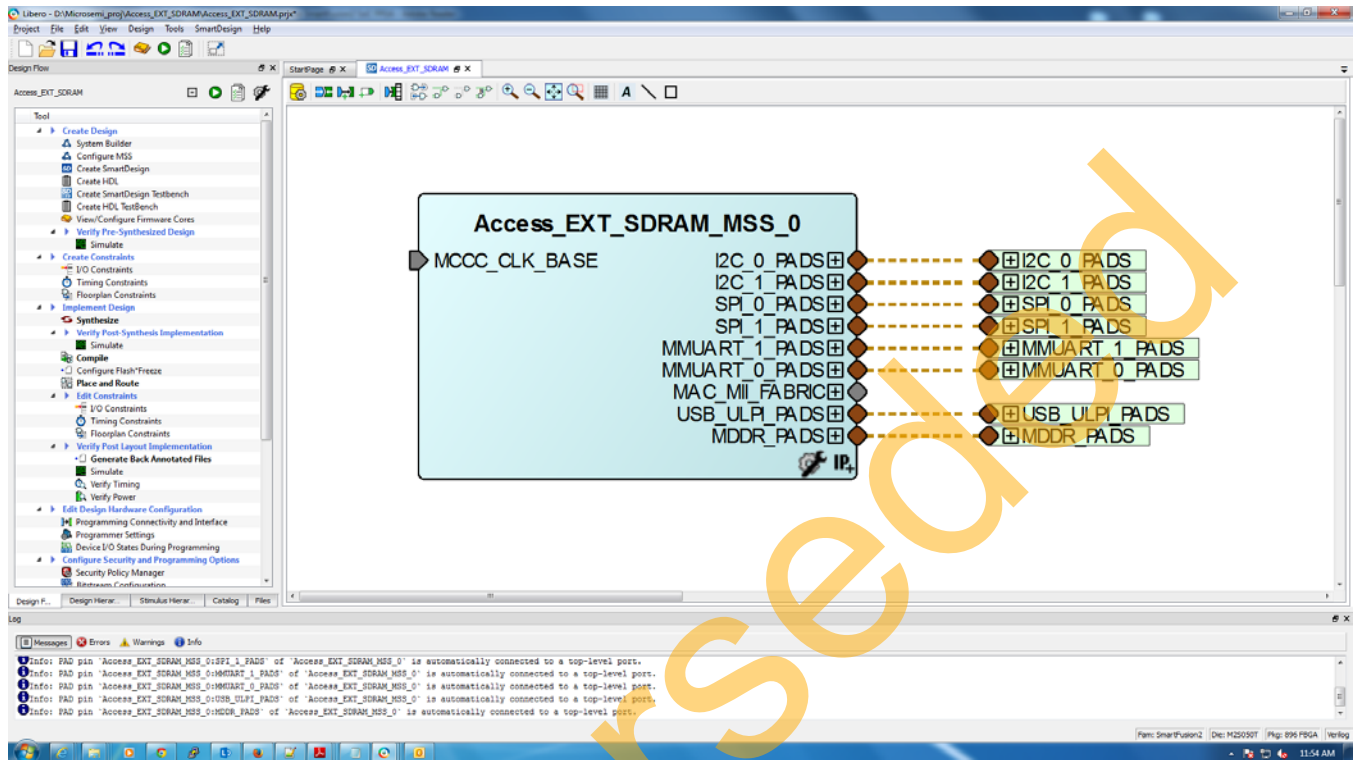

Figure 4. The Libero Window on Completion of New Project Creation Wizard
1. The project is created and the Libero SoC window is displayed, as shown in Figure 4. The **SmartDesign** window opens up and a project named Access_EXR_SDRAM is created with the instantiation of the MSS component.